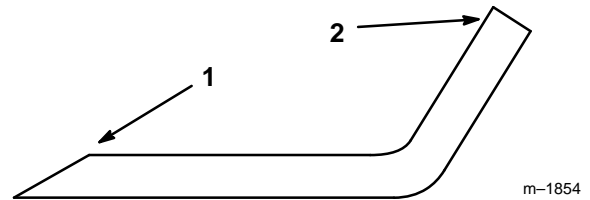
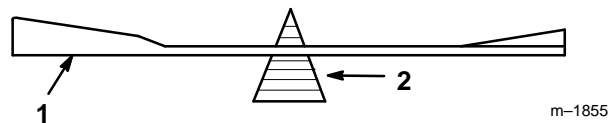

Figure 34
Figure 35
1. Use a file to sharpen the cutting edge at both ends of the blade (Fig. 34). Maintain the original angle. The blade retains its balance if the same amount of material is removed from both cutting edges.
2. Check the balance of the blade by putting it on a blade balancer (Fig. 35). If the blade stays in a horizontal position, the blade is balanced and can be used. If the blade is not balanced, file some metal off the end of the sail area only (Fig. 34). Repeat this procedure until the blade is balanced.